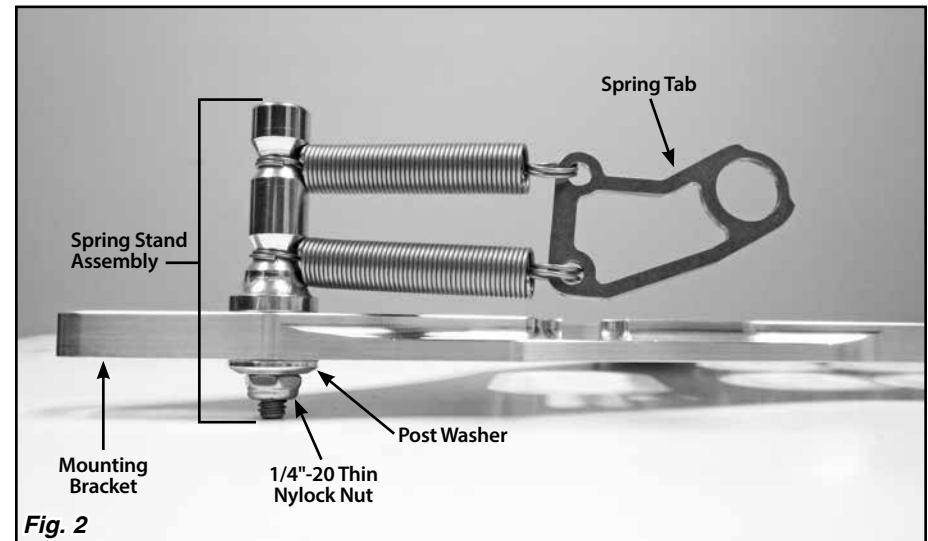

Fig. 2
**Step 1:** Remove the 1/4"-20 thin nylock nut and the post washer from the spring stand assembly. Install the spring stand with the springs and throttle tab onto the top side of the throttle cable mounting bracket, into the slot at the front driver side corner. Install the post washer (beveled edge out) and 1/4"-20 thin nylock nut on the bottom. **Fig. 2**